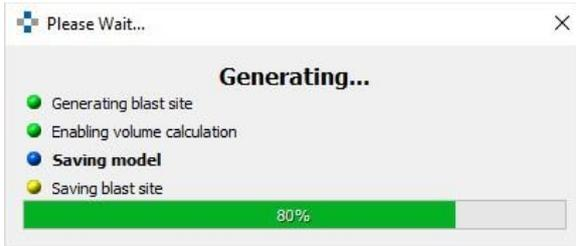

Figure 13: Progress window, which appears during the generation of the Blast Site
18. Confirm the marker sizes by clicking the “OK”  button. A progress window appear (Figure 13). The 3D model is scaled according to the scaling mode, the geometry of the *Blast Site* generated and volume calculations enabled at the same time.